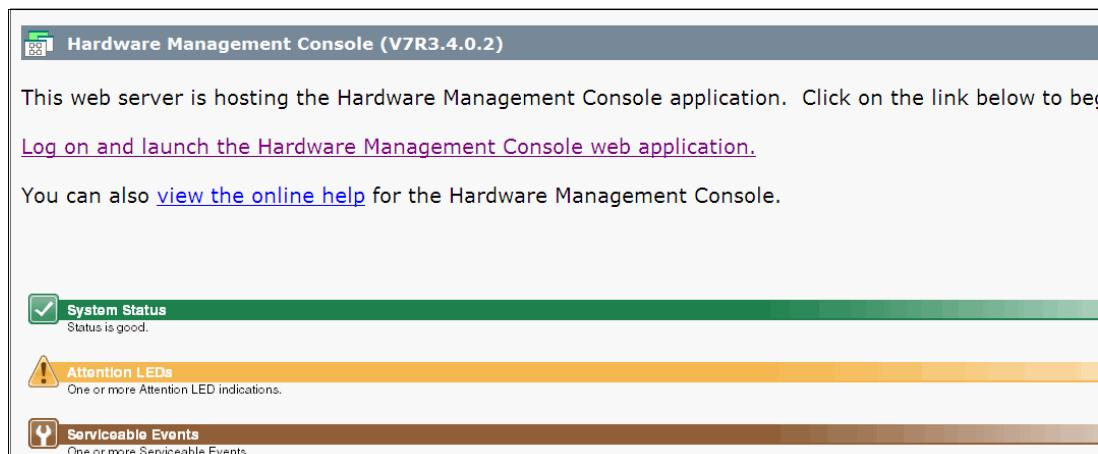

Figure 12-8 HMC Web User Interface
1. Log into the DS8700 Web User Interface (WUI) by directing your browser to <https://<DS8700 HMC IP address>>. The HMC WUI window appears (see Figure 12-8).